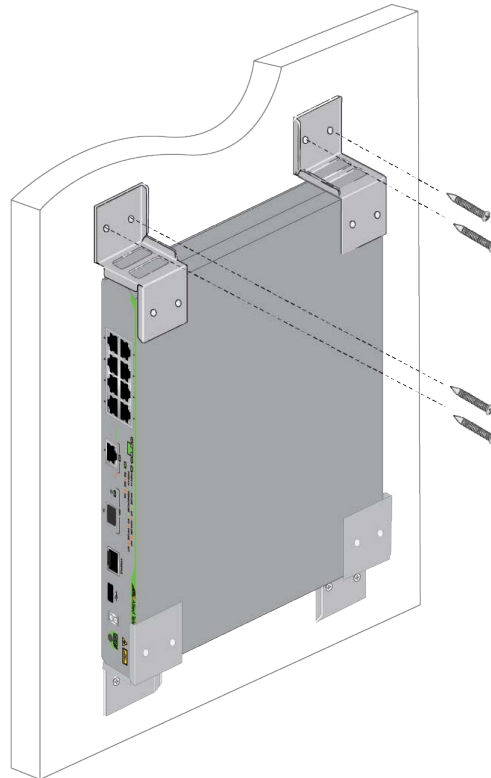

Figure 10. Securing the Top Brackets to the Wall
6. Place the two brackets back on the top of the switch and screw the screws through the holes to attach the brackets on the wall. See Figure 10 as an example.